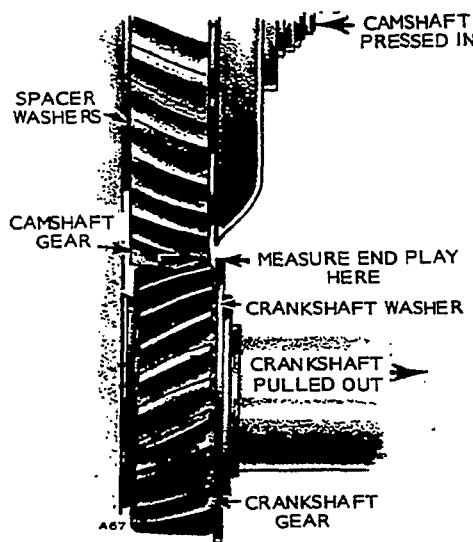

FIGURE 113. CAMSHAFT ENDPLAY
3. Slide thrust washer onto shaft. Measure camshaft end play; it should be 0.007 to 0.039 inch (0.178 to 0.991 mm). See Figure 113.